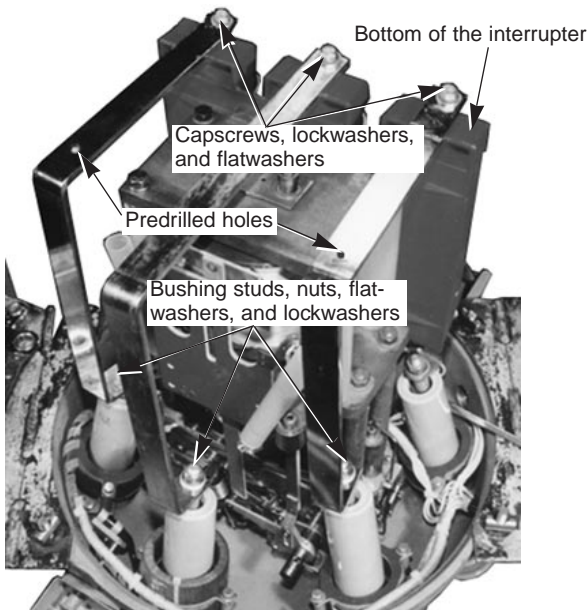

Figure 18.
15. Place a bus bar on each of the bushing studs and align the bus bar screw holes on the bottom of the interrupter (refer to Figure 18). The bus bars are pre-formed at different angles to fit in only one position. It may be necessary to switch the bus bars around to determine their exact position.
A. Attach the bus bars to the bottom of the interrupter using the capscrews, bronze lockwashers and brass flatwashers saved earlier (refer to Figure 18).
B. Use the nuts, flatwashers and lockwashers supplied with this kit. Place a flatwasher on the bottom bushing stud first, then the bus bar, followed with another flatwasher, the lockwasher, and then the nut (refer to Figure 18). Tighten the bus bar hardware.
16. Connect the fuse bracket to the bottom of the bus bar in the pre-drilled hole (refer to Figure 18) with the lockwasher and slotted screw furnished with the kit.